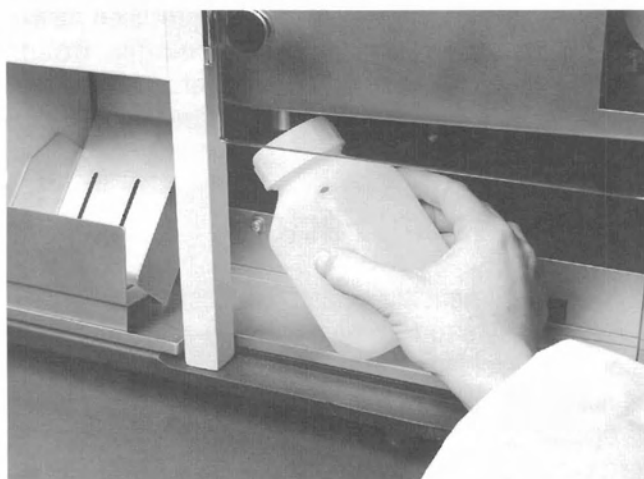

Figure 2-2
7. Fit the waste bottle onto the waste fluid spout by tilting the bottle slightly until the spout fits into the opening in the lid of the waste bottle (Figure 2-2).